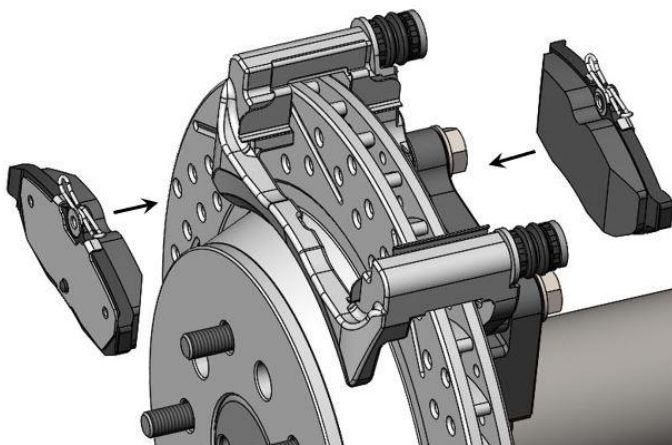
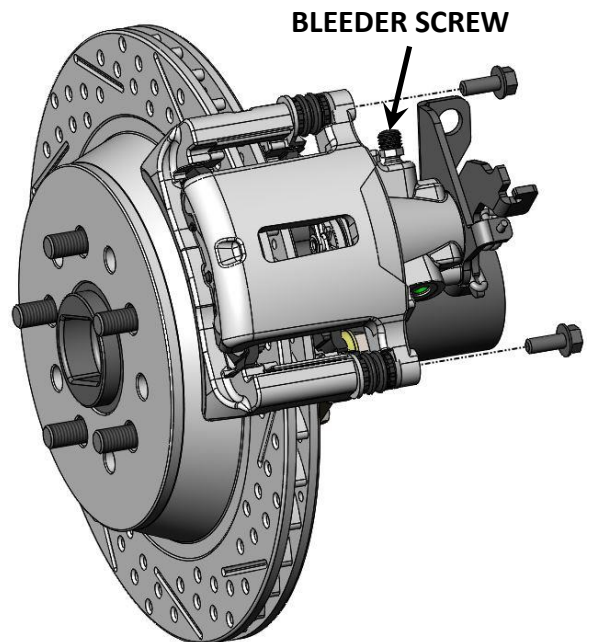

Figure 9a – Brake Pad Installation
Figure 9b - Caliper Installation and Bleeder Screw Orientation
12. With the Abutment Clips installed, Install the pads into the Caliper Anchor Bracket. Refer to Figure 9a below for reference. Once the pads are installed slide the caliper body over the brake pads and Caliper Anchor Bracket. With the caliper in place, re-install the caliper mounting bolts between the caliper and the bracket. Torque the bolts to 30 lb/ft. **IMPORTANT: Make sure that the bleeder screw is pointing upward.** See Figure 9b below for reference on installing the caliper.